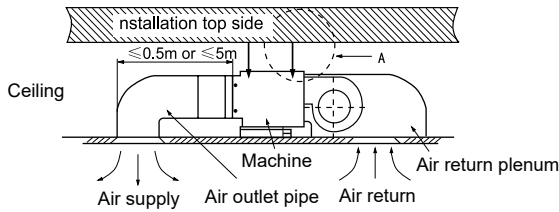
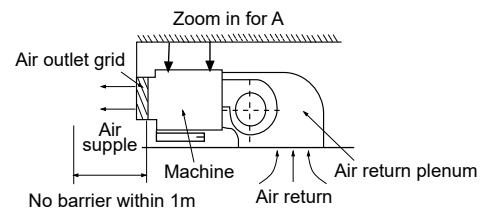

Fig.2
Fig.3
The fan is mounted with red down-lead end and red down-lead end. The standard model was set when the machine was made in the factory. The red down-lead end with high speed can be used when the er with high performance is used to make static pressure ascend. The connected style is shown in Fig.3.
- Concealed indoor units should be designed with air return plenum, as shown in Fig.2 & Fig.3.